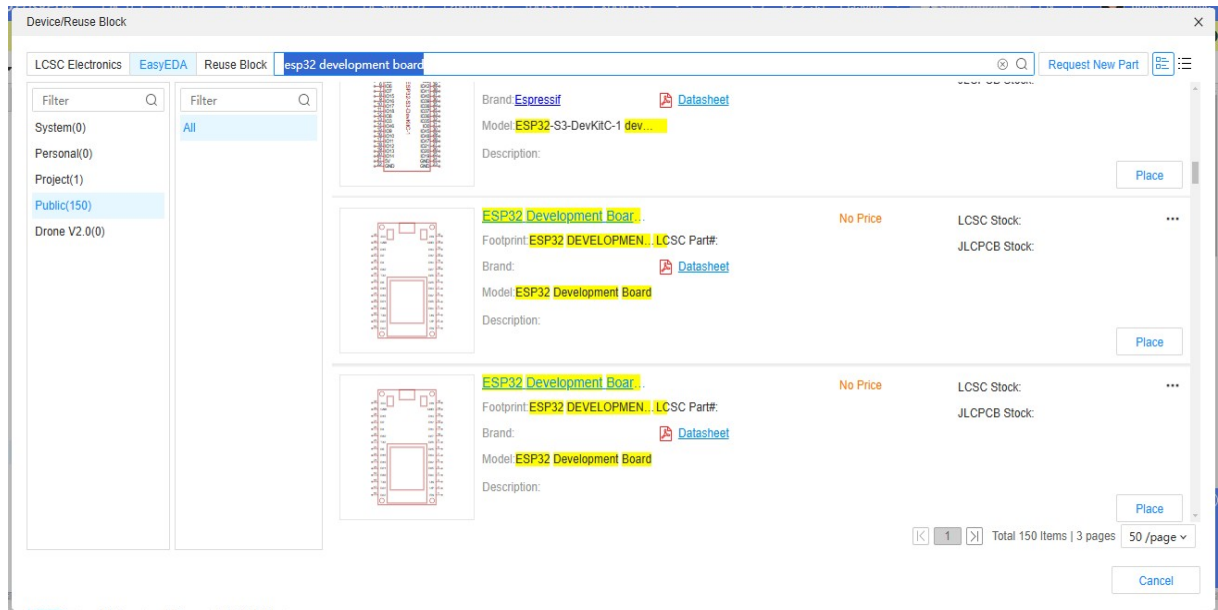

Fig. 1 Selection of Components for Placement in Schematic.
- a. To add the component, select the component from the top menu. A new pop-up window will open as a Device block, use the search option for the components as shown in Fig. 1.
- c. If the Component is in the common library, then select the common library tab from left. (as shown in Fig. 1).